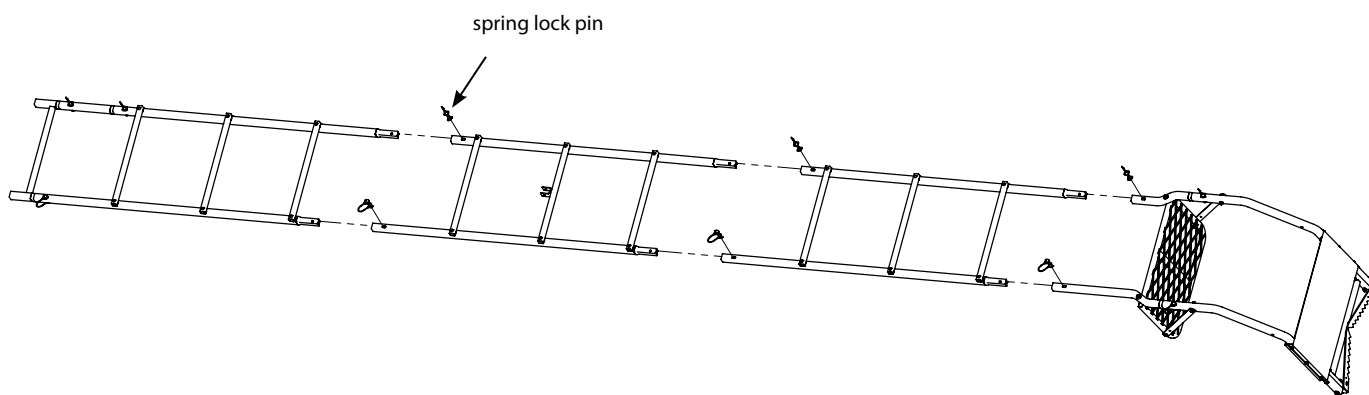

Figure 6
8. With all sections assembled together on ground, secure all sections together using (6) provided spring lock pins. Handle of spring lock pin must be put to the outside of ladder side rails. **SEE FIGURE 6.** In total, you should now have 11 spring lock pins on the ladder assembly that are securing all sections together.